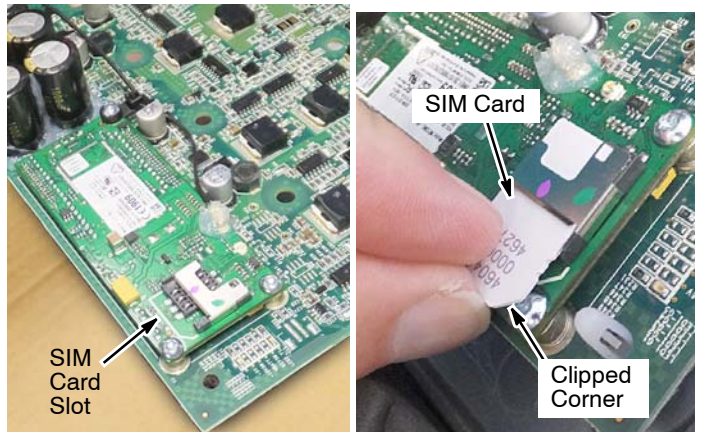

Fig. 8
2. Fully re-insert the existing SIM card into the new control board (Figure 8).